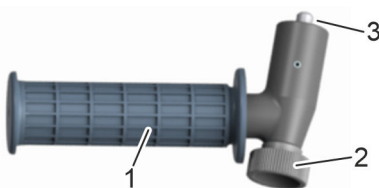

Fig. 14: Adjusting the handle
2. ➤ Make sure that the handle is firmly attached to its torque wrench connection (Fig. 14/3).
3. ➤ Adjust the handle (Fig. 14/1). To do so, loosen the wheel (Fig. 14/2), turn the handle to the desired position and refasten the wheel.